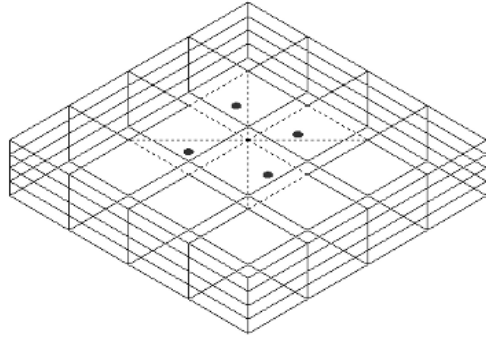

Figure 29-38 Faces selected to be extruded
1. Press CTRL and select the faces, as shown in Figure 29-38.